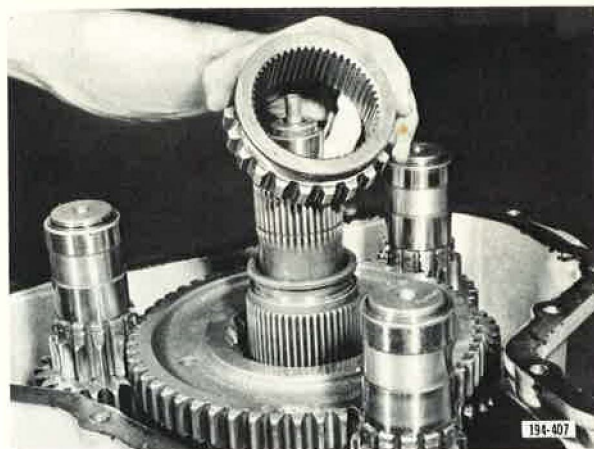

Figure 9. Removing First Speed Gear Sliding Clutch
4. Remove first speed gear sliding clutch, first speed gear, first speed gear thrust washer, second speed gear and second speed gear thrust washer. See Figures 9, 10, and 11.